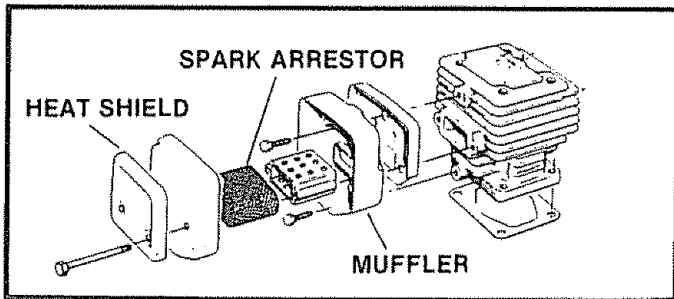

Figure 43
- Remove the muffler, baffles, and screen. Figure 43.